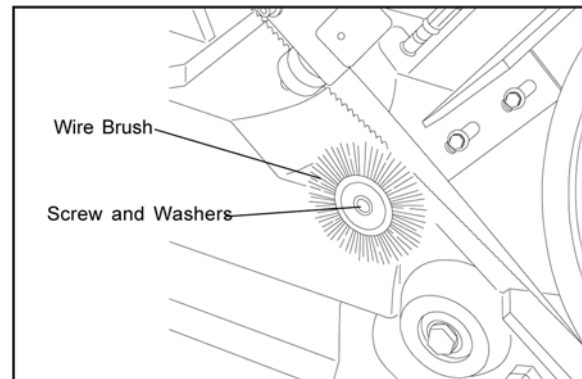

Figure 19: Wire brush
2. Remove the attaching screw, spring washer and washer. Remove and discard the brush (see Figure 19).